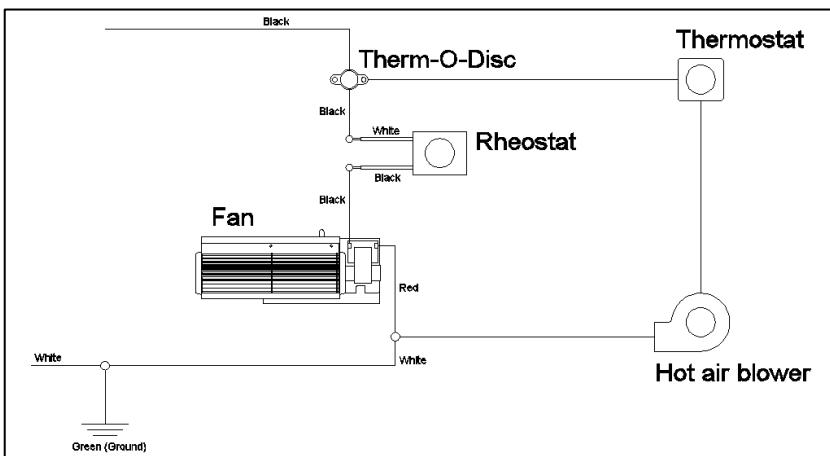

Figure 4-2: Electrical Diagram for Connection of Hot Air Kit and Blower Kit
8. Make the electrical connections (Figures 4-2 and 4-3). Note that the power supply to the blower is 115V.